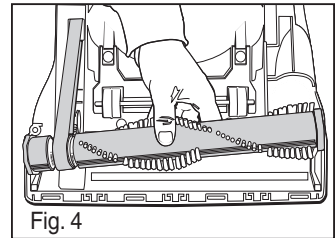

Fig. 4
- 5) Place new belt around motor shaft and brush roll. Insert left end of brush roll first (Fig. 4).